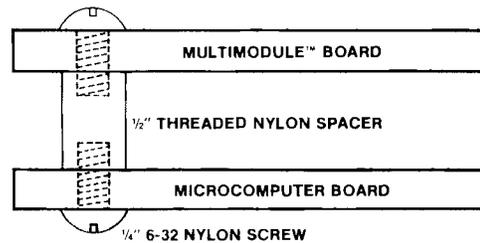

Figure 2-7. Mounting Technique
- With one 6/32 screw, secure the 1/2 inch plastic spacer to the host iSBC microcomputer as shown in figure 2-7.